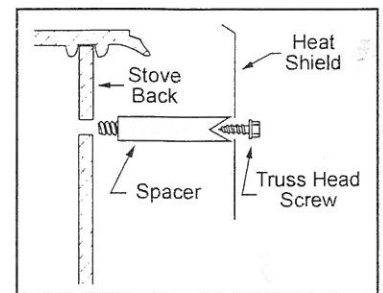

Figure 6 - Attach heat shield using spacers and truss head screws.
4. Fasten the heat shield (and insert if required per Step 2b) to the spacers using the truss head screws previously removed from the back of the stove. (Figure 6)